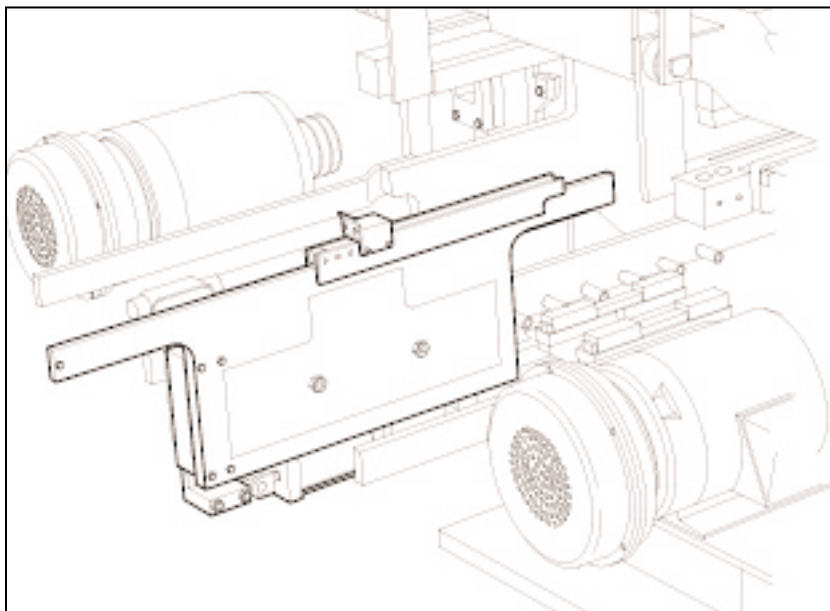

Figure 5.7 MOLD INSERTION DEVICE IN LOWER POSITION.
5.3.26 If your machine is equipped with a Mold Insertion Device, push carriages under shaft assembly of mold. Then raise carriage to carry position using the hand control. Figure 5.7 shows the Mold Insertion Device in its lower position.